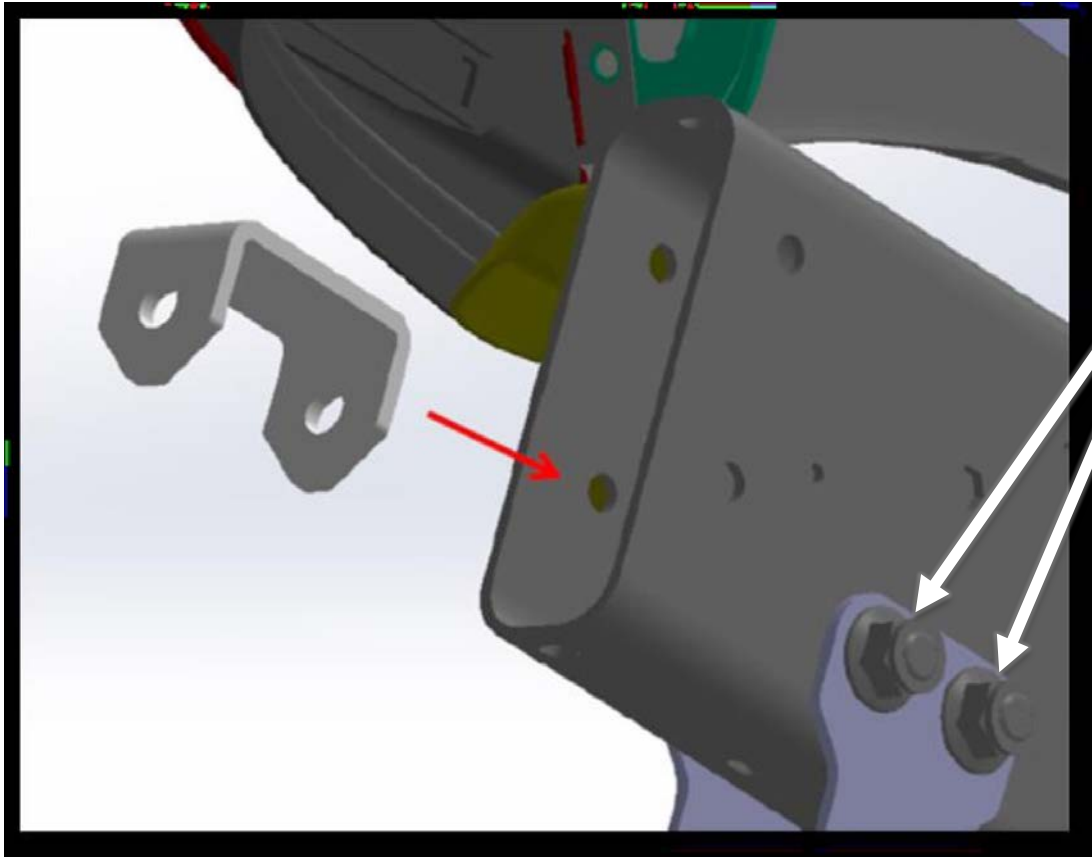

Figure 9 (FRAME ANTI-CRUSH PLATE)
- I. Using an 18mm socket remove the under-run guards under the forward body mount pedestals. Once removed install the provided anti-crush plates as shown (Ref. Figure 9).